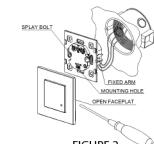

FIGURE 2
- If you want to install it in circular hole, put the sensor into the hole and tighten the splay bolt on both sides (refer to figure 2).